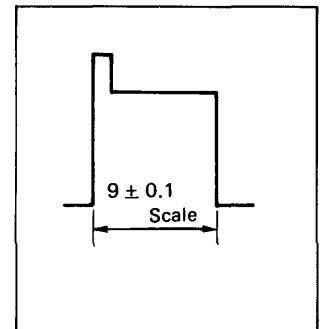

**Fig. 21**
- 20) Adjust Sub Delay Adj. VR (R5015) to achieve waveform at **TPD3** as shown in Fig. 21.